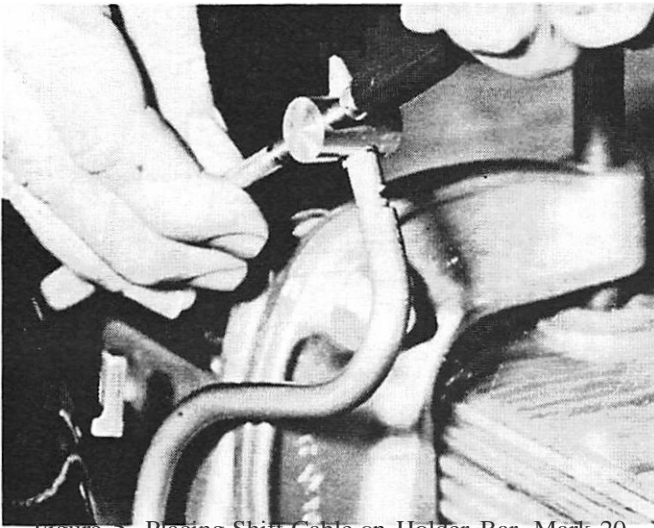

Figure 5. Placing Shift Cable on Holder Bar, Mark 20
7. Place shift cable brass block on swivel barrel on inside steering bracket by aligning slot on block with pin through swivel barrel. (Figure 5)